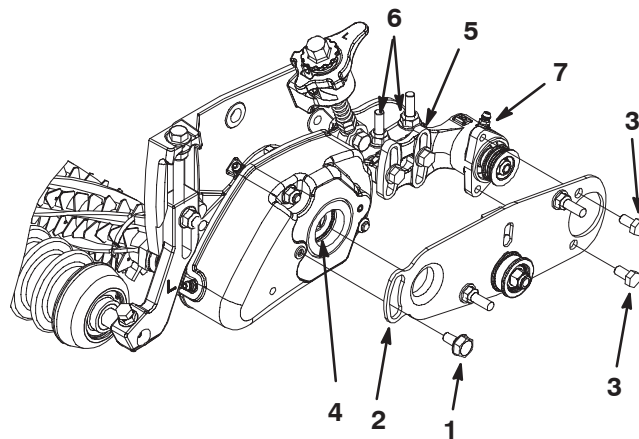

Figure 25
11. Loosen but do not remove the bolts securing the roller brush bearing housing to the roller brush mounting bracket (Fig. 25).
12. Install the roller brush pivot plate (Fig. 25). When the protrusion on the pivot plate is inserted into the grommet on the groomer cover, make sure that the grommet stays properly seated on the cover.
13. Apply 242 Loctite (blue) to the (2) 5/16 x 5/8 inch bolts and use them to mount the brush plate to the roller brush bearing housing (Fig. 25). Torque the bolts to 15–19 ft–lb.
- Loosen the (2) flange locknuts securing the roller brush mounting bracket to the cutting unit side plate (Fig. 25).
- Rotate the roller brush bearing housing until the brush plate is parallel to the cutting unit side plate (Fig. 25).
- Tighten the (2) flange locknuts securing the roller brush mounting bracket to the cutting unit side plate (Fig. 25).
15. Apply 242 Loctite (blue) to the shoulder bolt (Fig. 25). Mount the brush plate to the groomer cover with the shoulder bolt. (Fig. 25). Torque the bolt to 15–19 ft–lb.